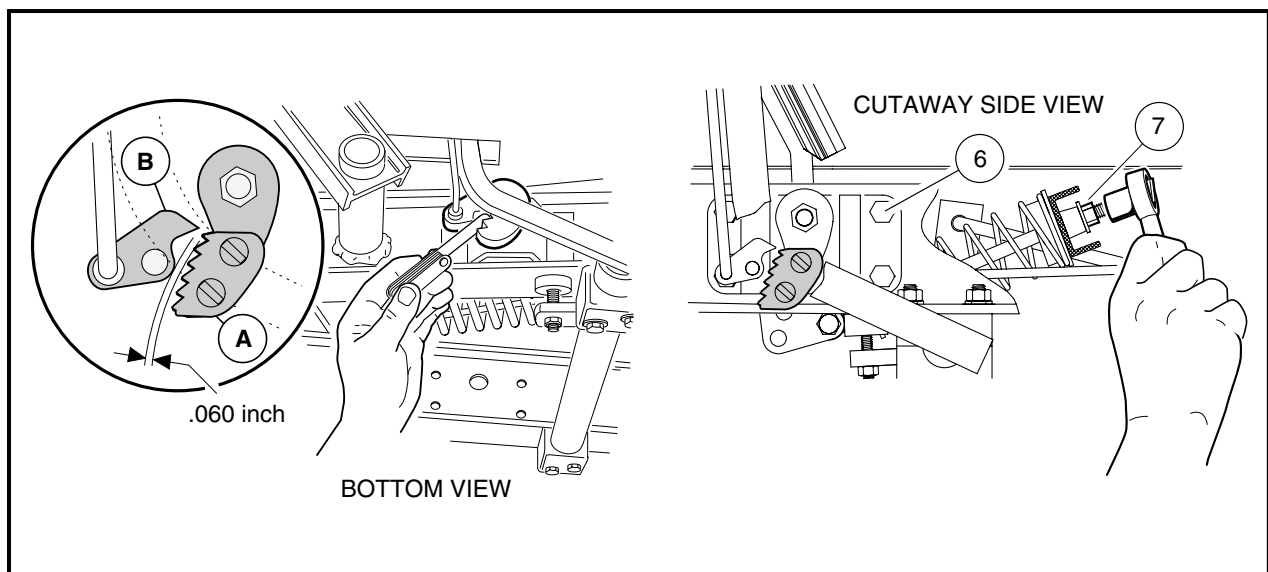

Figure 5-24 Park Brake Ratchet/Pawl Gap Adjustment
- 3.2. Adjust retaining nut (7) on spring support rod until there is a 0.060 inch (1.5 mm) gap between the pawl and the tips of the ratchet teeth. Use a feeler gauge to verify the gap (**Figure 5-24, Page 5-17**). The gap should be consistent through range of pawl movement. If the gap is not consistent, loosen the four bolts (6) securing the accelerator pivot rod supports and adjust the supports. If the gap becomes smaller as the park brake pedal is depressed, move the pivot rod supports slightly rearward until the gap is consistent. If the gap becomes larger as the park brake pedal is depressed, move the pivot rod supports slightly forward until gap is consistent.